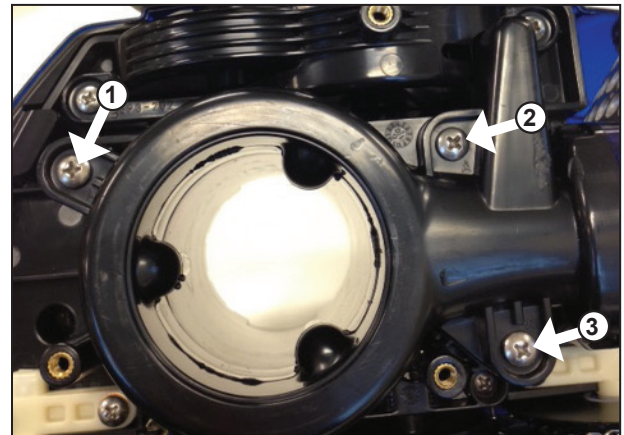

Figure 22. Replace three (3) water management system screws
8. Replace three (3) water management system screws (Figure 22).